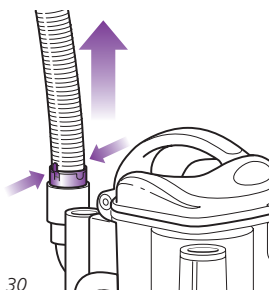

Fig. 30
- Detach the stretch hose from the back of the portable *Lift-Away*® canister by squeezing the tabs together and pulling up. **(Fig. 30)** Straighten out the hose and look inside for blockages.